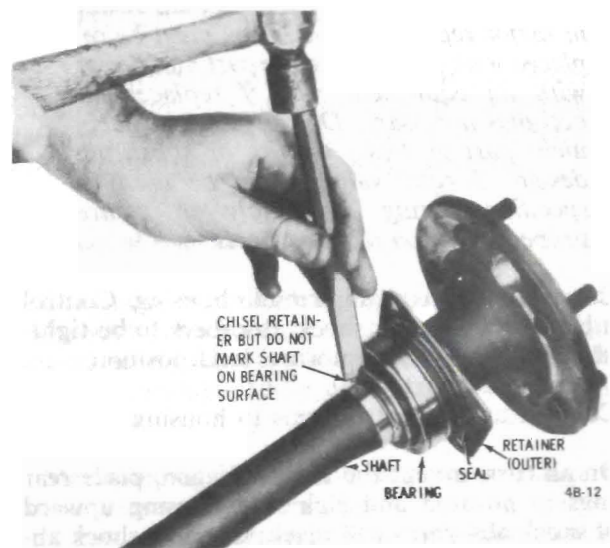

Figure 4B-12 - Removing Axle Shaft Bearing Retainer
2. Press axle shaft bearing off using Plate J-23133. See Figure 4B-13. Avoid damaging seal when removing bearing.